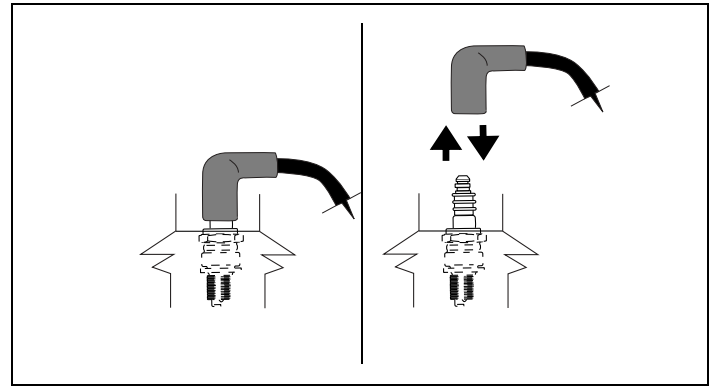

Figure 34. Disconnecting/Connecting Spark Plug
1. Carefully disconnect spark plug wire and keep it away from spark plug. See Figures 34 and 35.
10. Carefully disconnect spark plug wire from grounding post, if provided. See Figure 34.